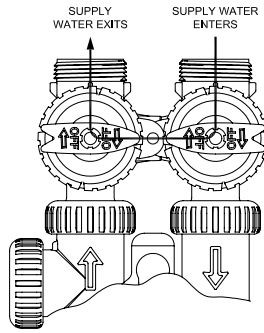
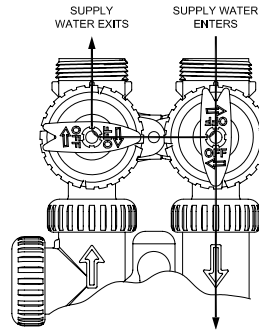

Figure 4
Figure 5
2. Place the bypass valve in the bypass position. (See figure 4 above) Turn on the main water supply. Open a cold soft water faucet to flush the piping of any air and/or foreign material. Run until the water is clear.
6. Push REGEN button and hold it down for 3 seconds. The system will advance to the "First" position. (Note: Depending on how the system is programmed it could read backwash, rinse, brine or fill). Pushing REGEN button until "Rinse" shows in the left upper hand corner of display. Slowly place the bypass into the "diagnostic mode" (see fig 5, above). Run water to the drain until it runs clear. Return the bypass valve to the by-pass position (fig 4, above). Push REGEN button until unit is back to softening mode.